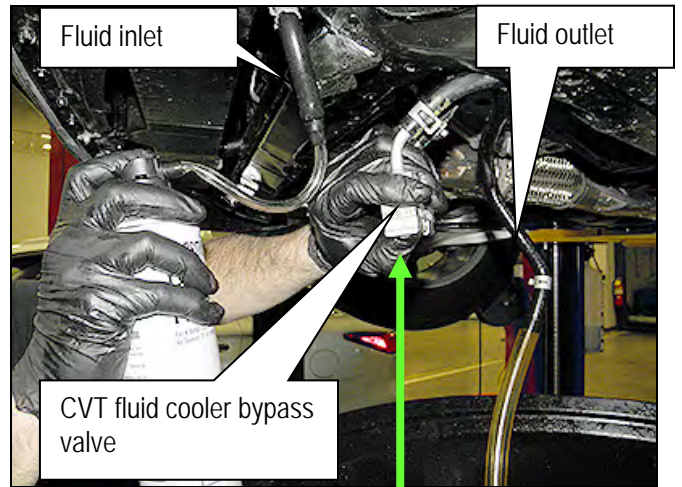

Figure 3E
8. Insert the "extension adapter hose", from a can of Cooler Cleaner (Nissan P/N 999MP-AM006P), into one or the other of the disconnected CVT fluid cooler hoses (Figure 3E).
- Block the CVT fluid cooler bypass valve (Figure 3E) with thumb.
- Block the CVT fluid cooler bypass valve fluid passage (Figure 3E) with thumb.
14. Now reverse the direction that the hoses are being flushed (Figure 3E) and repeat steps 8 through 12 twice (total of 3 times).